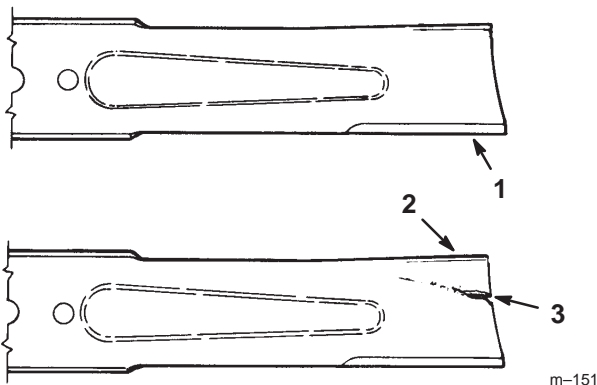

Figure 33
2. Inspect the cutting edges (Fig. 33). If the edges are not sharp or have nicks, remove the blade(s) and sharpen them; refer to Sharpening the Blade(s), page 28.
3. Inspect the blade(s), especially the curved area (Fig. 33). If you notice any damage, wear, or a slot forming in this area (Fig. 33), immediately install a new blade.